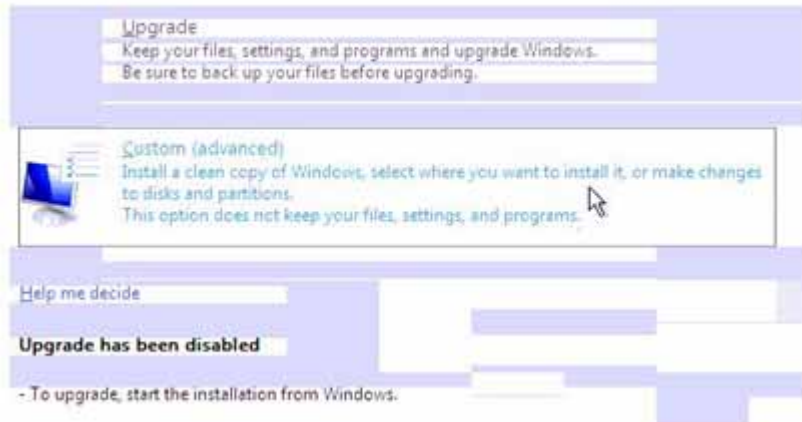

Figure 44 Windows setup screen
7. Check the **I accept the license terms** checkbox and click **Next** to continue to the **Windows setup** screen (Figure 44 on page 67).